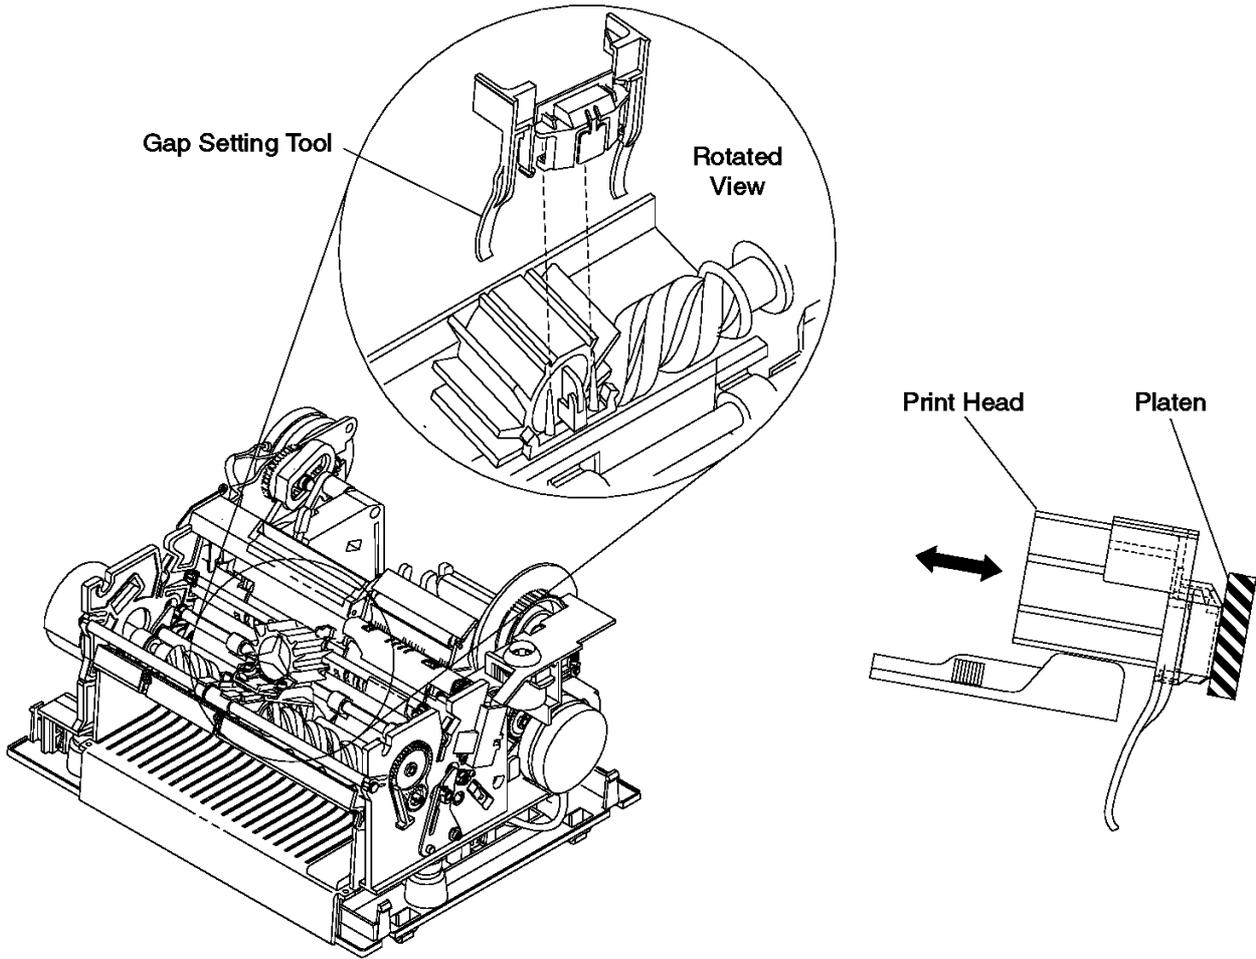

Figure 6-56. Print Head Adjustment. The print head and its gap setting tool are shown on the right.
3. Use the gap setting tool as shown in Figure 6-56 to set the correct gap between the print head and platen. Latch the tool in front of the print head as shown and move the print head forward on the carrier until the tool is flush with the platen.